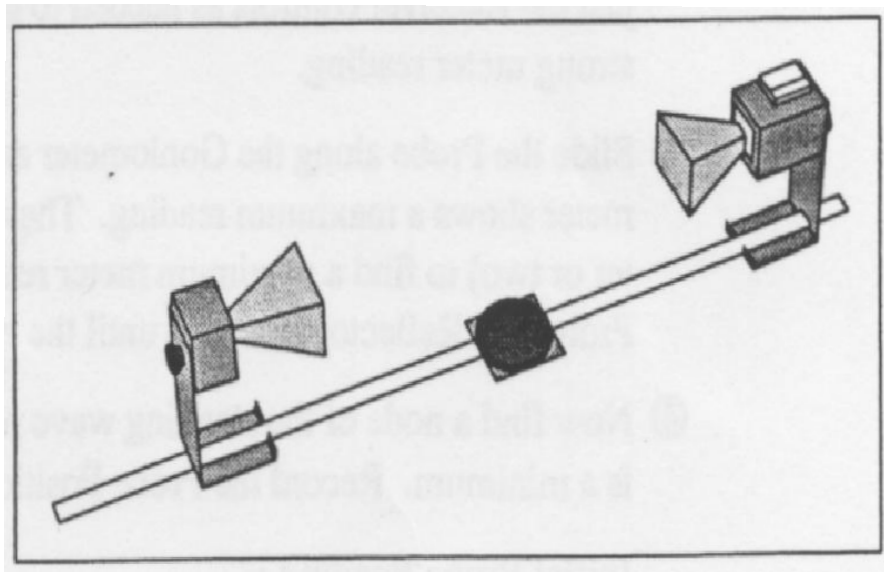

Figure 2: Transmitter and receiver units setup on the goniometer.
1. Place the transmitter and receiver on the *goniometer* (the hinged ruler) with the transmitter on the fixed arm, see Figure 2. Set the distance between the transmitter and receiver at 40cm. Turn on the transmitter and receiver, and set the receiver controls to show a near full scale deflection. Record the meter reading as the transmitter-receiver distance is increased. Make use of the various meter scales, and remember not to adjust the variable sensitivity dial between readings. Plot a graph of the meter reading against distance.